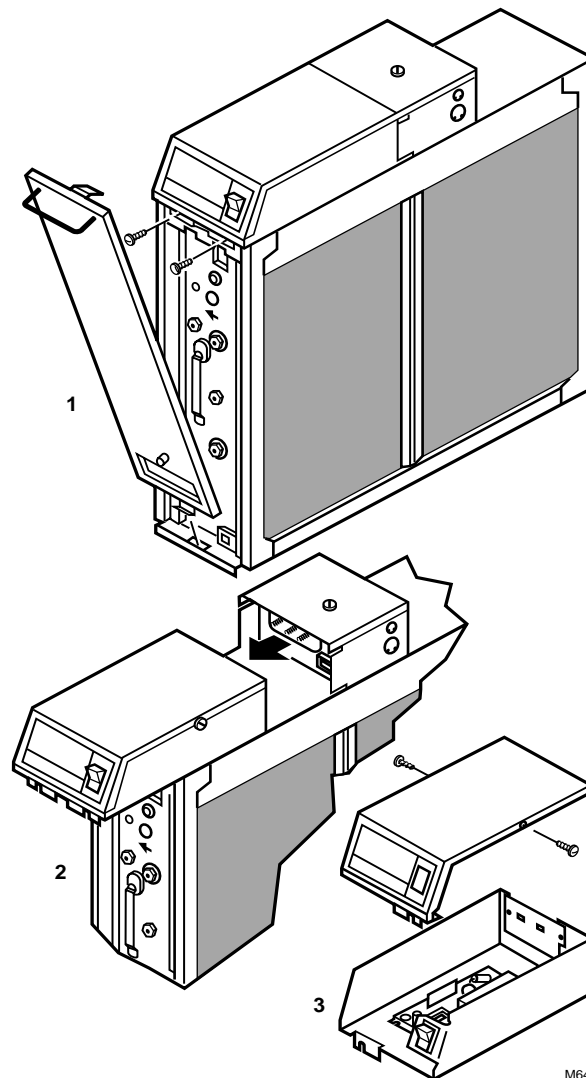

Fig. 32. You must remove two-cell model power box from air cleaner to remove cover.
- c. If power supply is remotely mounted, make sure the access door is left open. Remove the power box cover. See Fig. 32.
2. Remove the access door and loosen the two screws holding the power box. See Fig. 32.